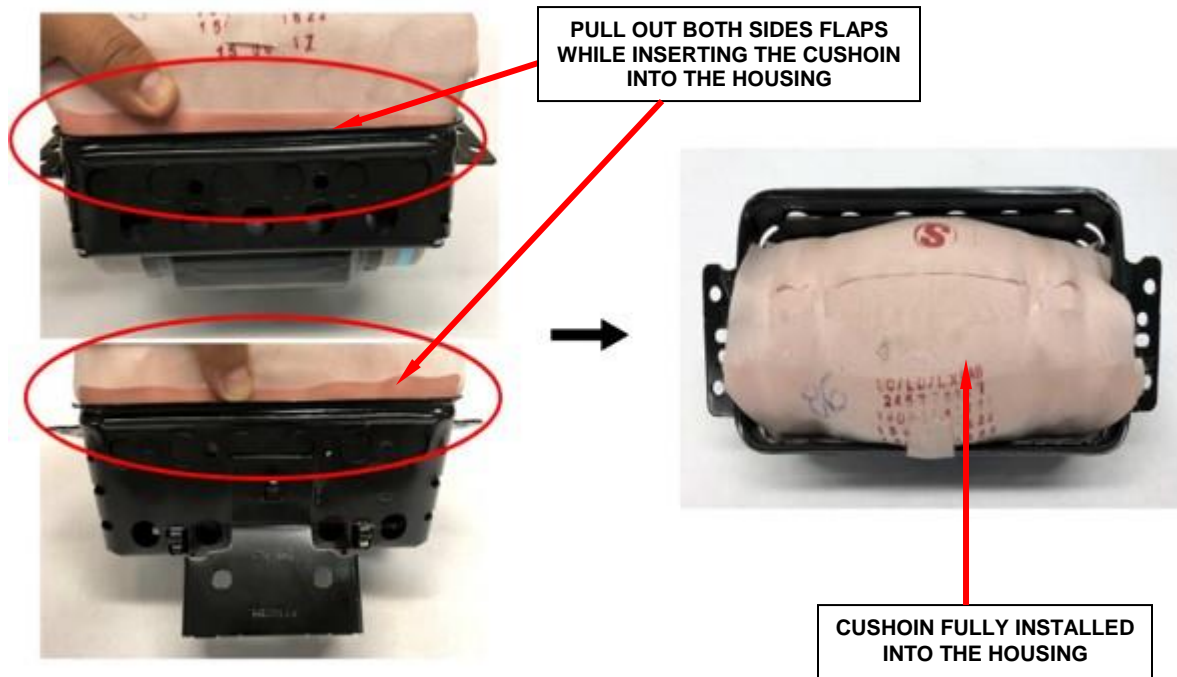

Figure 56 – Side Flaps Must Be Held Out
- i. Insert the cushion, pulling out both side flaps (Figure 56).